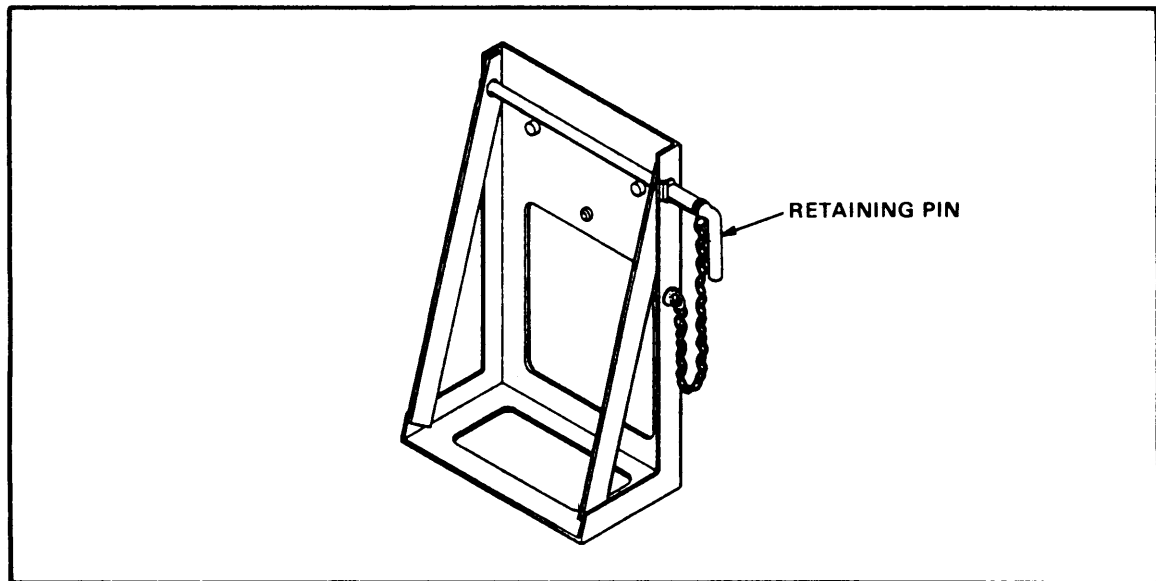

Figure 3-18. Bracket mounting assembly.
(5) Bracket mounting assembly. This assembly supplies a mount for the M548 metal ammunition container. It has a metal frame that attaches to the gun cradle, and a retaining pin that inserts through the top-inner end of the M548 ammunition container (Figure 3-18).